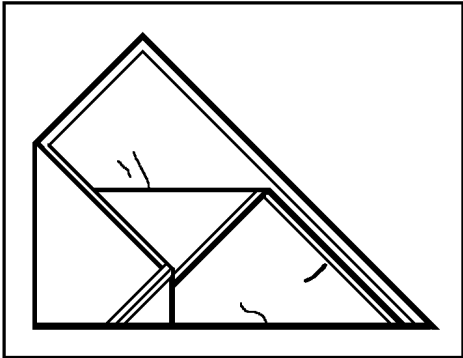

Figure 3-11
- f. Fold back the corner formed in step 10e approximately 2 to 2-1/2 inches while maintaining the tension. (See Figure 3-11.) The corner is turned back so that the tip can be reached without entering the pack.